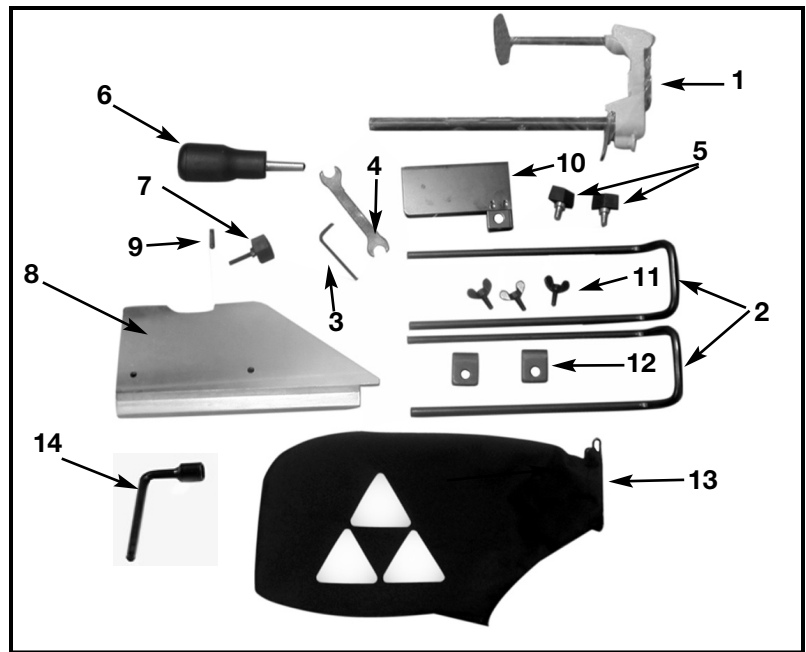
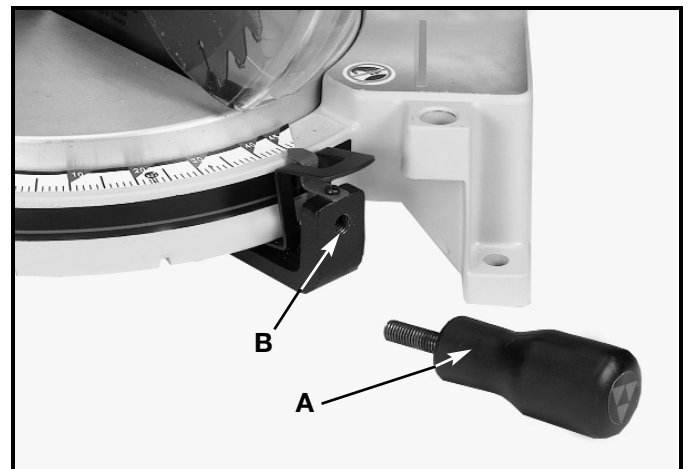
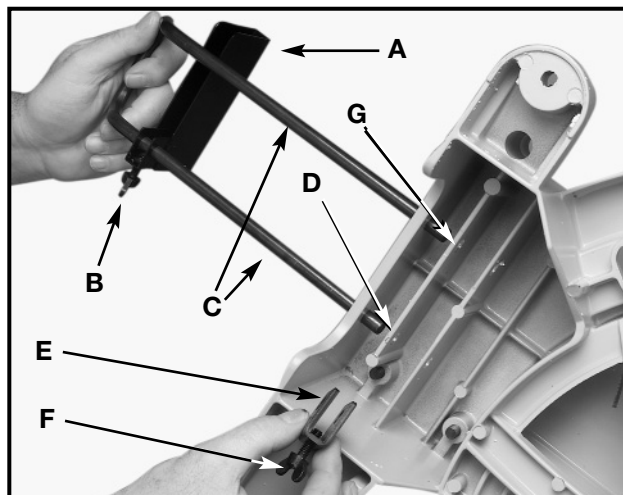

Fig. 2
Fig. 5A
Fig. 7A
2. Unassembled items are shown in Fig. 2 for identification and use in assembling the saw.
Thread the miter saw handle (A) Fig. 5A or (6) Fig. 2 into the hole in the table (B) Fig. 5A.
1. Slide the stop block (A) Fig. 7A onto one wing (as shown in Fig. 7A) and thread a wing screw (B) Fig. 7A and (11) Fig. 2 into the hole on the side of the stop block.
2. Tighten wing screw (B) Fig. 7A.
3. Insert extension wing rods (C) Fig. 7A into holes in outer wall of saw as shown in Fig. 7A.
4. Thread wing screw (F) Fig. 7A into clamp bracket (E) as shown. Place clamp bracket over hole (D) and slide extension wing rod (C) through the clamp bracket (E). Be sure other extension wing rod (C) is inserted through hole (G).